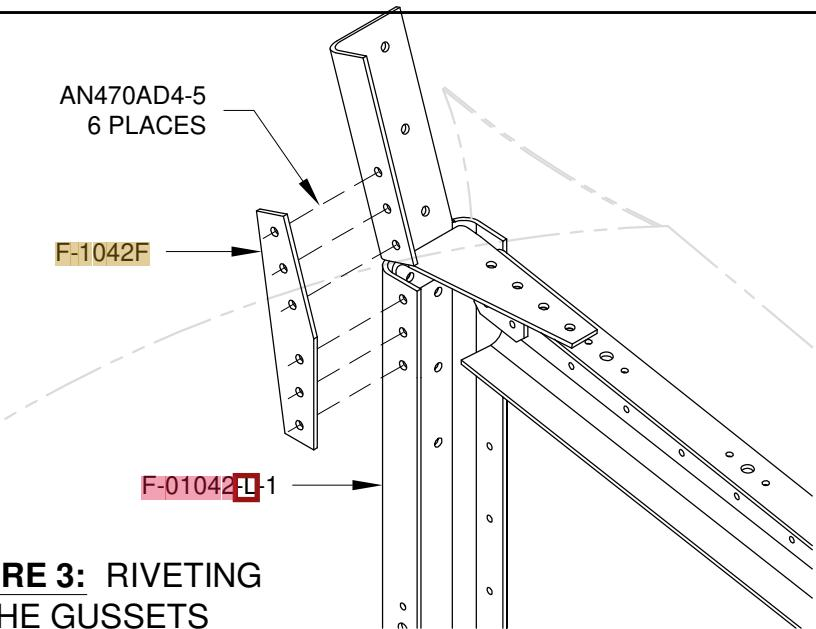

FIGURE 3: RIVETING THE GUSSETS
Step 4: Rivet the F-1042F Gussets to the F-01042-1 Bulkhead Side Channels using the rivets called out in Figure 3.